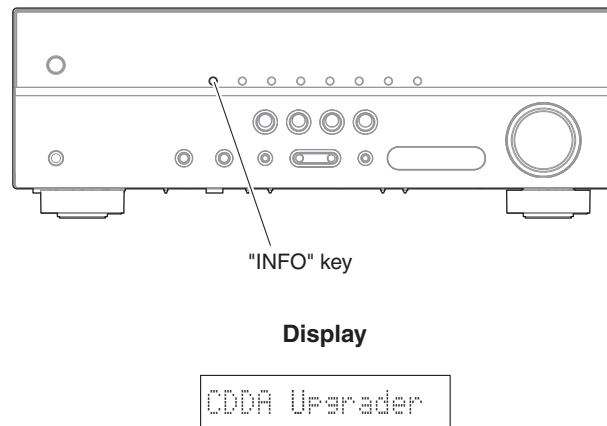

Fig. 2
1. While pressing the "INFO" key, connect the power cable to the AC outlet. (Fig. 2)
The FIRMWARE UPDATE mode is activated and "CDDA Upgrader" is displayed. (Fig. 2)